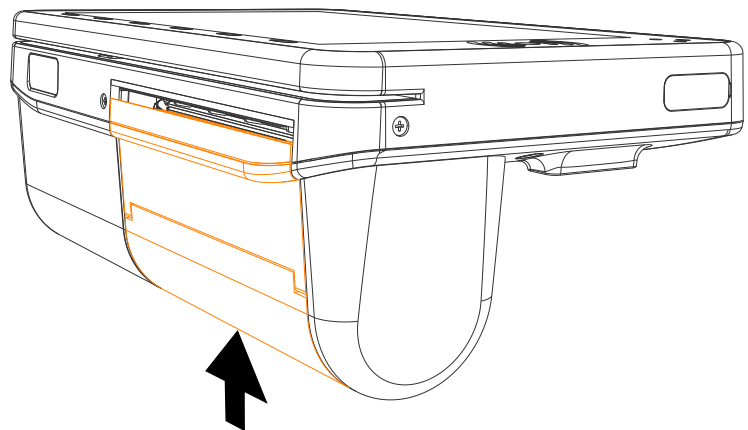

**Figure 5-4:** micro USB, On/Off Button, Charging socket, Charging contacts
- Open the rubber covers, under which the charging socket is located. (see Fig. 5-4)